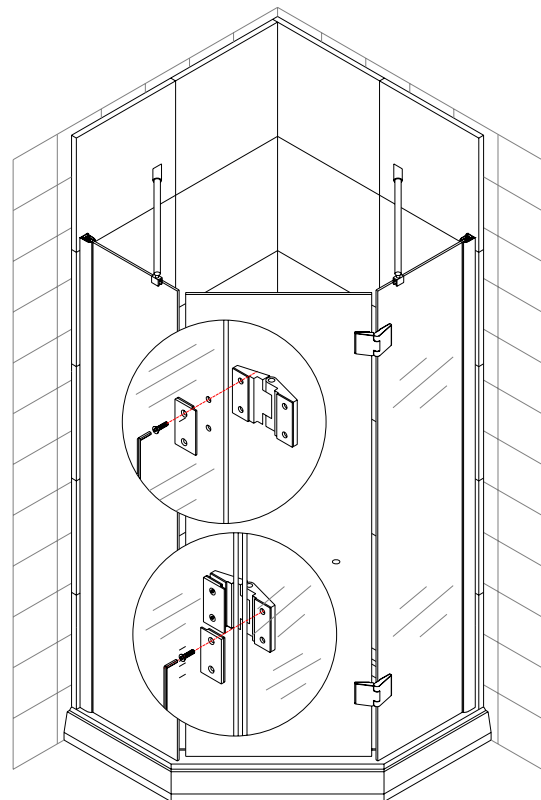

Fig 4
7. Install the **hinges (7)** onto the narrow stationary glass panel and the glass door. Upper edge of **Glass door** should be on the same level as upper edge of the **stationary glass**. You will need assistance in this process. Start off by attaching the hinges to the stationary glass panel. Place the hinge from the outside and screw it in from the inside, do this for the bottom hinge and the top hinge, but start first from the top hinge when you begin to put the door on. Make sure that until both hinges are installed securely, the door does not swing around or lean/bend to any side because that could cause the hinge to snap. After the hinges are installed open and close the door to make sure it's nice and smooth (fig 4). Push on the **connected anti-water strip (15)** to seal between glass door and narrow stationary glass (fig 5).
8. Install the **handle** to the **glass door**. Locate the Vertical Handle and Horizontal Handle (9). The horizontal handle will be on the outside and the vertical handle will be on the inside of the door. Start the installation from the outside which will involve the horizontal handle first. Don't forget to use the rubber gaskets between the glass and washers.